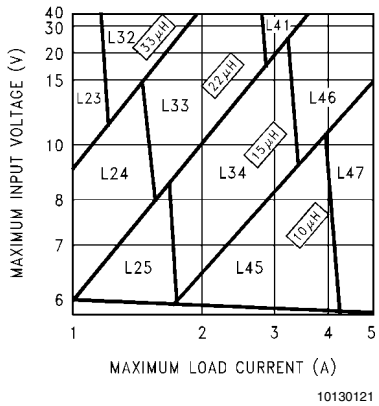
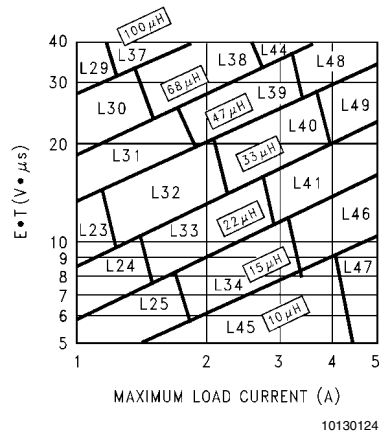

FIGURE 3. LM2677-3.3
FIGURE 6. LM2677-ADJ
Step 3: Determine the inductor required by using one of the four nomographs, *Figure 3* through *Figure 6*. Table 1 provides a specific manufacturer and part number for the inductor.
Step 5: Determine an input capacitor from Table 4 for fixed output voltage applications. Use Table 2 to find the specific capacitor type. For adjustable output circuits select a capacitor from Table 2 with a sufficient working voltage (WV) rating greater than $V_{in\ max}$, and an rms current rating greater than one-half the maximum load current (2 or more capacitors in parallel may be required).
Step 3: Use the nomograph for the 3.3V device, *Figure 3*. The intersection of the 16V horizontal line ($V_{in\ max}$) and the 2.5A vertical line ($I_{load\ max}$) indicates that L33, a $22\mu\text{H}$ inductor, is required.
Step 3: To use the nomograph for the adjustable device, Figure 6, requires a calculation of the inductor Volt•microsecond constant ($E \cdot T$ expressed in $V \cdot \mu s$) from the following formula:
Using Figure 6, the intersection of $27V \cdot \mu s$ horizontally and the 2A vertical line ($I_{load\ max}$) indicates that L38, a $68\mu H$ inductor, should be used.
Important Note: When using the adjustable device in low voltage applications (less than 3V output), if the nomograph, Figure 6, selects an inductance of $22\mu H$ or less, Table 6 does not provide an output capacitor solution. With these conditions the number of output capacitors required for stable operation becomes impractical. It is recommended to use either a $33\mu H$ or $47\mu H$ inductor and the output capacitors from Table 6.